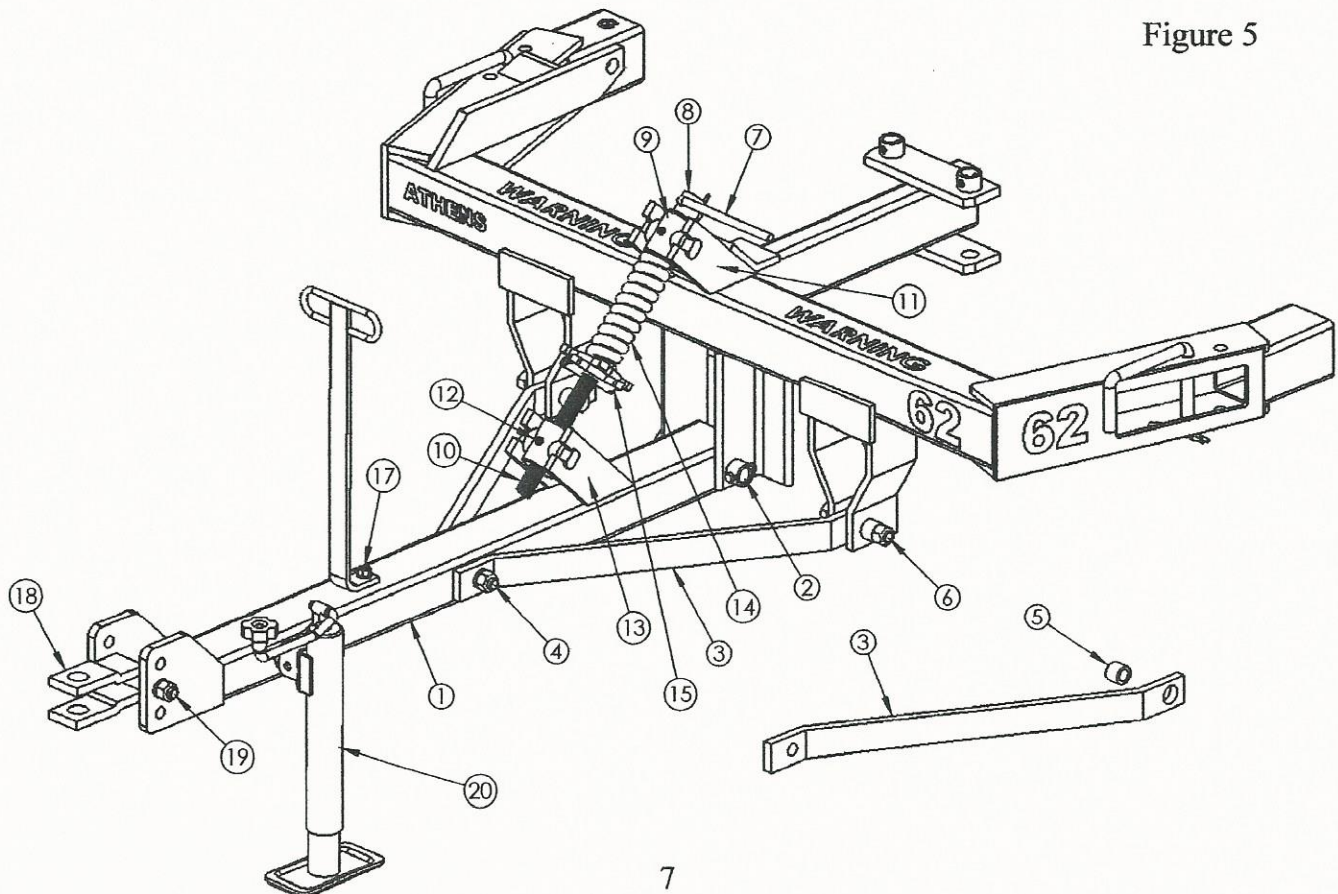

Figure 5
F) To Attach Tongue and Self-Leveling Parts (Refer to Figure 5)
G) To Attach Hose Stand and Tongue Jack (Refer to Figure 5)
- 1) Attach the Hose Stand (16) to the Tongue with the $\frac{1}{2}$ x 4" Hex Bolt (17), $\frac{1}{2}$ " Lock Washer, and a $\frac{1}{2}$ " Hex Nut. Secure the Clevis (18) to the Tongue with the $\frac{3}{4}$ x 6 $\frac{1}{2}$ " Hex Bolt, $\frac{3}{4}$ " Lock Washer and $\frac{3}{4}$ " Lock Nut (19). Insert the Tongue Jack (20) into the Jack Tube Bushing as shown. Secure with the Ball Spring Pin supplied with the Jack.